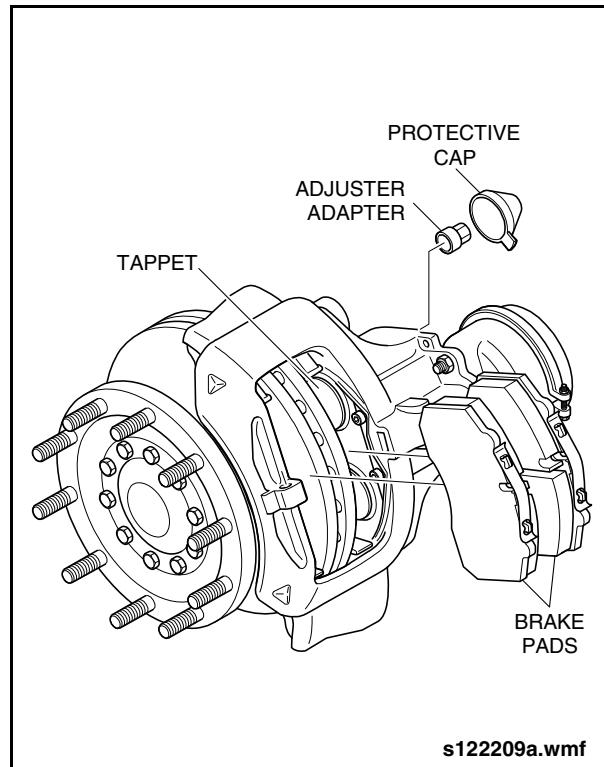

Fig. 1-54: Brake Pad Removal
- a. Remove the protective cover from the adjuster by using the pull tab. Do not use a screwdriver to pry off the cap, otherwise the seal could be damaged. See "Fig. 1-54: Brake Pad Removal" on page 58.